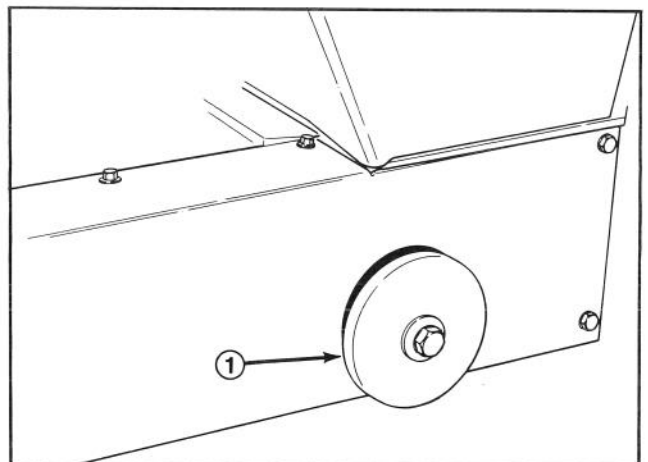

Figure 8
10. Loosely install idler cover to sprocket with fasteners removed (Fig. 8).